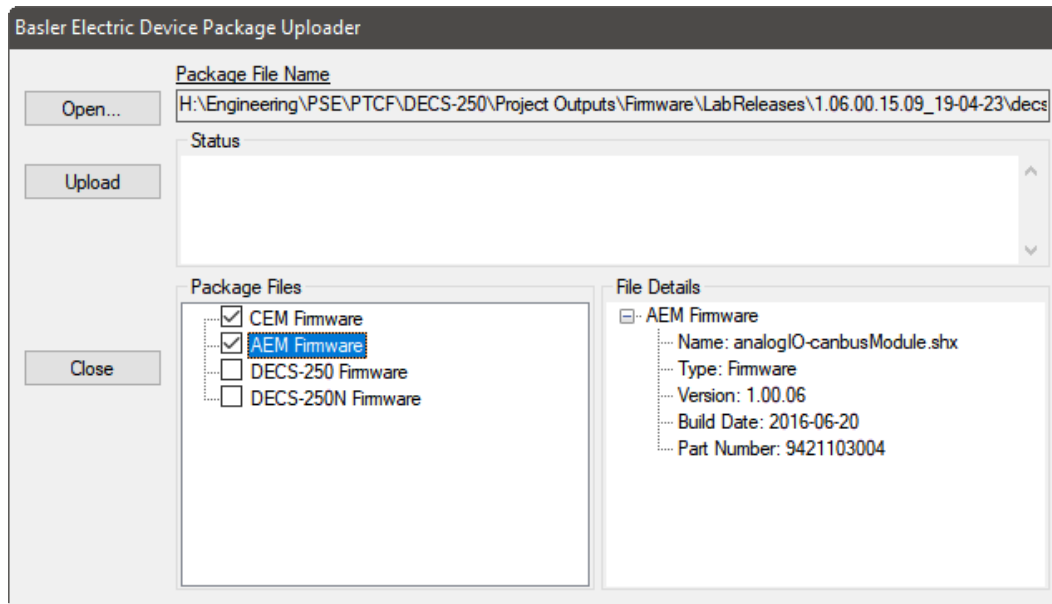

Figure 20-10. Basler Electric Device Package Uploader
8. When the Basler Electric Device Package Uploader screen (Figure 20-10) appears, click on the Open button to browse for the device package you have received from Basler Electric. The Package Files along with File Details are listed. Place a check in the boxes next to the individual files you want to upload.